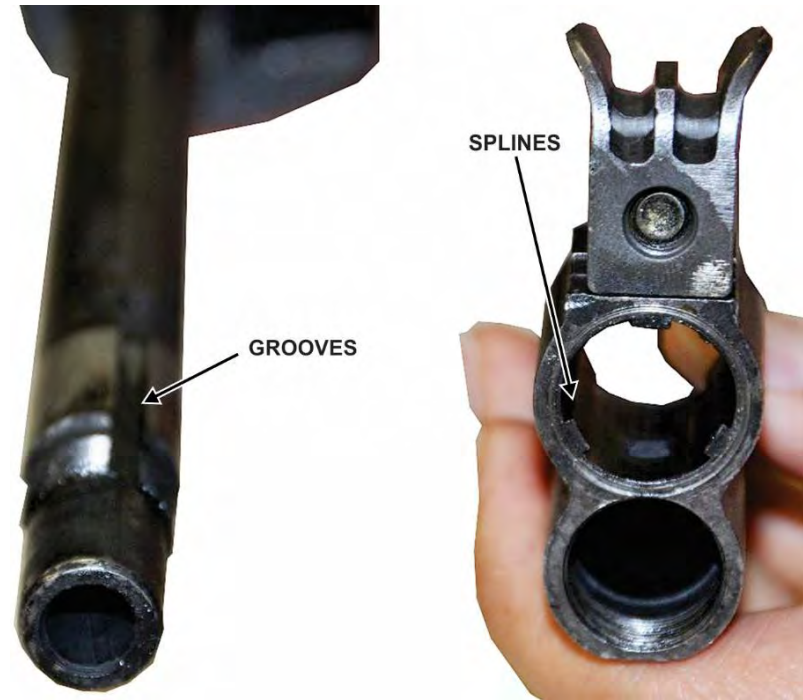

Figure 31. Splines & grooves
- 2) Place the gas cylinder over the barrel, making sure that the splines are aligned with their grooves (fig 31).